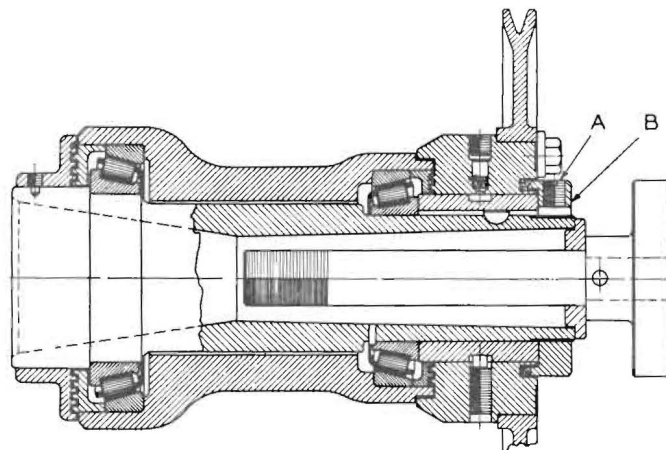

FIGURE 5
1. Loosen screw "A" (Fig. 5) in lock nut "B".